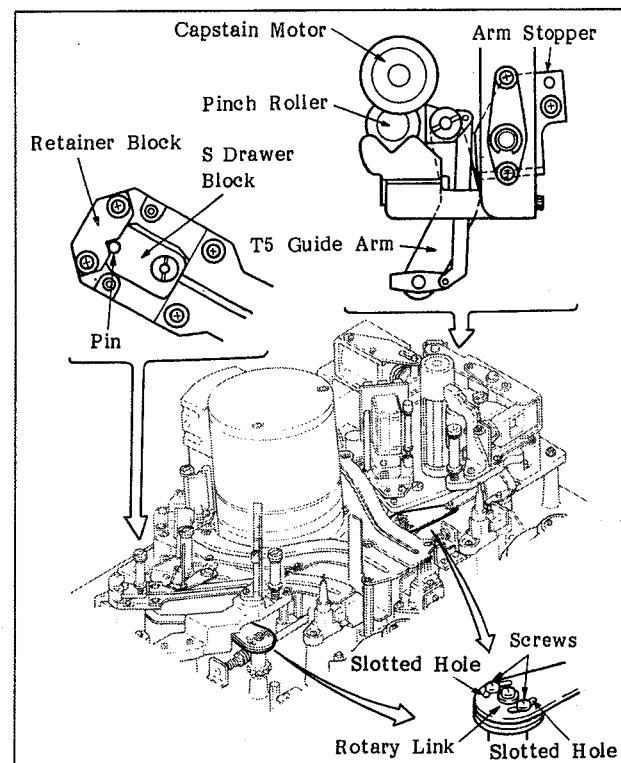

Fig. 6-58. Adjustment of the Position of the S or T Rotary Link
- Loosen the two screws shown in Figure 6-58, and adjust the position of the S or T rotary link by rotating the threading motor manually so that the S drawer block pin touches the retainer block and the T5 guide arm touches the arm stopper at the same time.